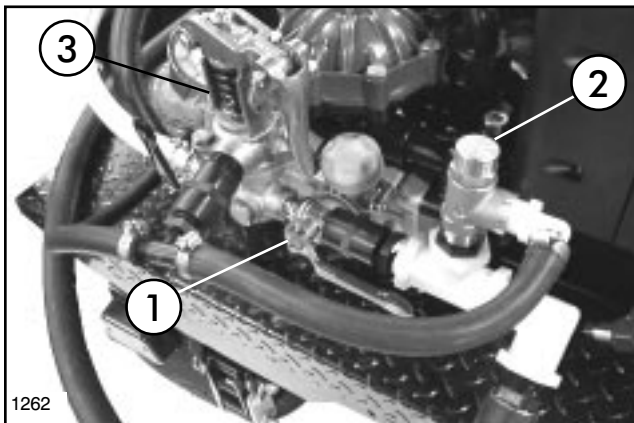
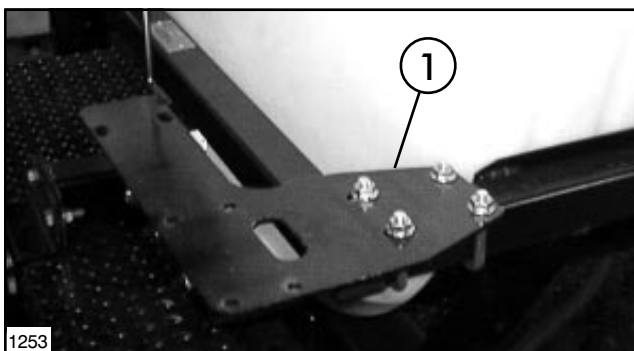

FIG. 7
FIG. 8
1. Install (1) 1/2" Barbed Tee into the front port of the Pressure Relief/Adjustment Valve using (1) 1/2" Nipple and Coupling. See FIG. 7.
4. Loosen the (2) hex nuts securing the Pressure Relief/Adjustment Valve to the Diaphragm Pump. Apply thread sealer and install the 1/2" Ball Valve into the R.H. port of the Pressure Relief/Adjustment Valve and retighten hex nuts. See FIG. 7.
5. Apply thread sealer and attach the 3/4" tee to the 1/2" ball valve using (1) 1/2" coupling and (1) 1/2" x 3/4" reducing nipple.
6. Apply thread sealer and install the Relief Valve in the top port in tee using (1) 3/4" x 1/2" reducing bushing as shown in FIG. 7.
7. Apply thread sealer and install (1) 1/2" hose barb in open port in Relief Valve. Connect Relief Valve and barbed tee using (1) 1/2" x 21" hose and (2) hose clamps.
9. Secure the Valve Plate to the rear bar of the Saddle Assembly using (2) U-Bolts and (4) 5/16" flange nuts. See FIG. 8.
13. Connect Ratchet Valve to tee at pump with (1) 1" x 36" Hose and (2) hose clamps. See FIG. 7 & 9
14. Secure the 1" x 44" Hose to hose barb in the rear of the Ratchet Valve using (1) hose clamp. Route toward rear of vehicle.
15. Attach handle to Ratchet Valve using (2) 5/16" x 3/4" cap screws and flange nuts.
17. Route Pull Rope along L.H. side of operator for ease of actuating Ratchet Valve. Provided are (2) Ring Guides, (2) R-Clamps, (1) Ring Terminal, (1) Pull Rope Handle, (2) 5/16" x 3/4" cap screws and flange nuts. Use as needed to route Pull Rope.